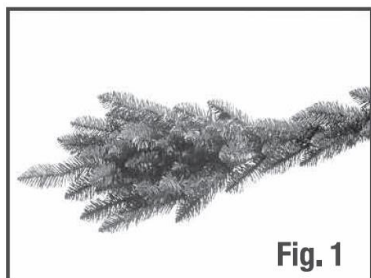

Fig. 1
Unfold a Metal Stand(B) and insert the Eye Bolt. Remove packing material from ends of Poles. Put Bottom Section Pole into Tree stand making sure it is seated properly (Figure 1).
1. Every tree style is shipped from the factory with the tips of each Branch compressed to the center(Figure 1).